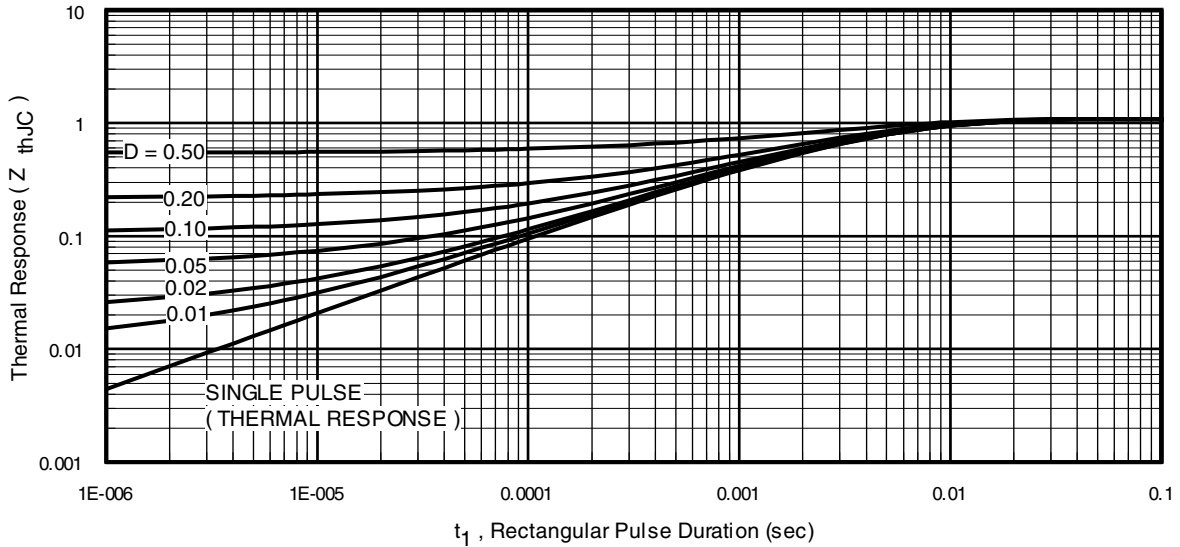
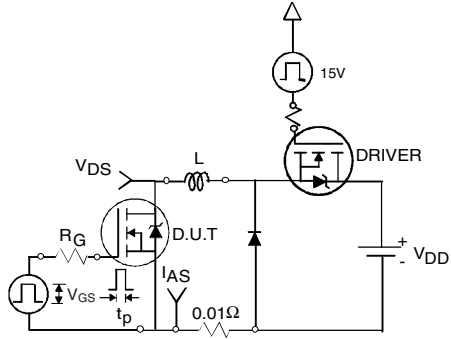

Fig 11. Maximum Effective Transient Thermal Impedance, Junction-to-Case
Fig 12a. Unclamped Inductive Test Circuit
3. Equation below based on circuit and waveforms shown in Figures 12a, 12b.
$Z_{thJC}(D, t_{av})$ = Transient thermal resistance, see figure 11)
- ① Repetitive rating; pulse width limited by max. junction temperature. (See fig. 11).
- ② Limited by T_{Jmax} , starting $T_J = 25^\circ C$, $L = 0.47mH$, $R_G = 25\Omega$, $I_{AS} = 30A$, $V_{GS} = 10V$. Part not recommended for use above this value.
- ③ $I_{SD} \leq 30A$, $di/dt \leq 300A/\mu s$, $V_{DD} \leq V_{(BR)DSS}$, $T_J \leq 175^\circ C$
- ④ Pulse width $\leq 1.0ms$; duty cycle $\leq 2\%$.
- ⑤ C_{OSS} eff. is a fixed capacitance that gives the same charging time as C_{OSS} while V_{DS} is rising from 0 to 80% V_{DSS} .
- ⑥ Limited by T_{Jmax} , see Fig.12a, 12b, 15, 16 for typical repetitive avalanche performance.
- ⑦ This value determined from sample failure population. 100% tested to this value in production.
- ⑧ When mounted on 1" square PCB (FR-4 or G-10 Material) . For recommended footprint and soldering techniques refer to application note #AN-994